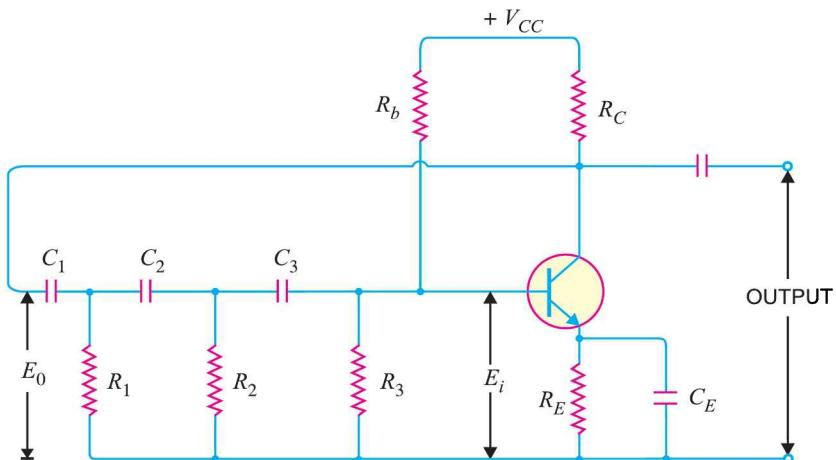

Fig. 14.17
Fig. 14.17 shows the circuit of a phase shift oscillator. It consists of a conventional single transistor amplifier and a *RC* phase shift network. The phase shift network consists of three sections  $R_1C_1$ ,  $R_2C_2$  and  $R_3C_3$ . At some particular frequency  $f_0$ , the phase shift in each *RC* section is  $60^\circ$  so that the total phase-shift produced by the *RC* network is  $180^\circ$ . The frequency of oscillations is given by :
**Example 14.7.** In the phase shift oscillator shown in Fig. 14.17,  $R_1 = R_2 = R_3 = 1M\Omega$  and  $C_1 = C_2 = C_3 = 68 pF$ . At what frequency does the circuit oscillate?